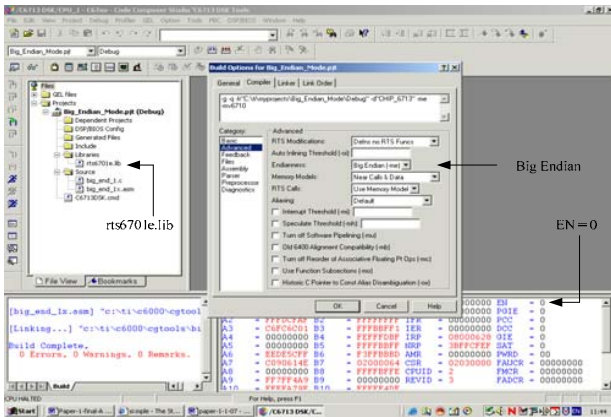

Fig. 3 A screen-shot of the CCS for big endian mode
2. As a result of step 1, **EN** in the Code Composer Studio must indicate **0**. This is read only register and indicates the mode of the DSK board. When EN=0, the DSK board operates in the big endian mode. The value of EN can be displayed in the CCS by **Clicking View → Clicking Register → Clicking Core Registers** as shown in Fig. 3.
3. The endianness of the TMS320C6713 DSK board needs to be set to Big Endian as shown in Fig.3. This can be done by **Clicking Project → Click Build Options → Highlight Advanced** and make sure the **Endianness** is set to **Big Endian** and press **OK**.